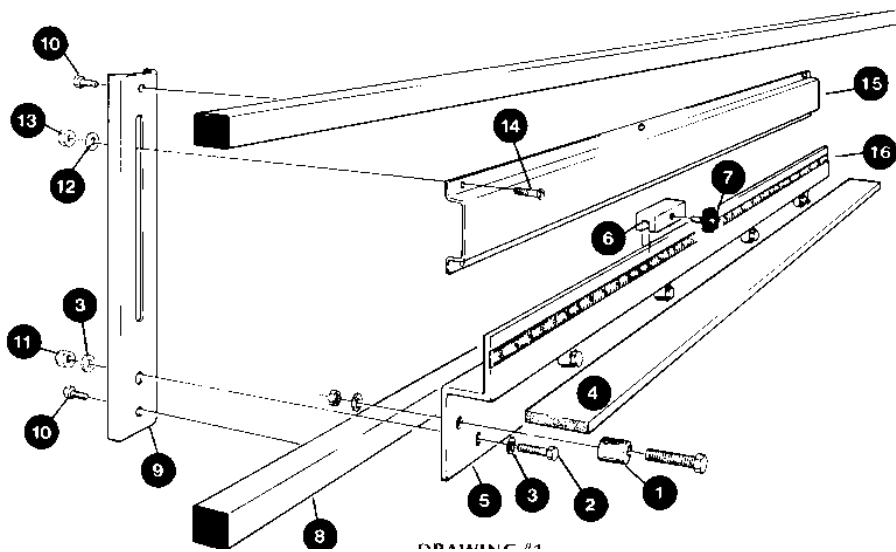

Figure 12: Pre-assembly of Midway Fence
1. Lay out the parts shown in Figure 12 on a horizontal surface (table or bench) for pre-assembly. Note that one end of each fence extrusion is cut at a 45° angle. The units should be pre-assembled so that these beveled ends will fit against the center of the tool frame at final assembly.
3. Tip the top of the rear support brackets (#9 in Figure 12) under the **upper** horizontal frame member (#8), raise the fence, and push the lower ends of the rear support brackets down behind the **lower** horizontal frame member. The nuts may have to be loosened slightly to perform this step.
3. Slightly loosen the bolts that secure the aluminum extrusion (#5, Fig. 12) to the rear support brackets (#9), to allow the extrusion to be moved up or down by tapping it with a mallet.